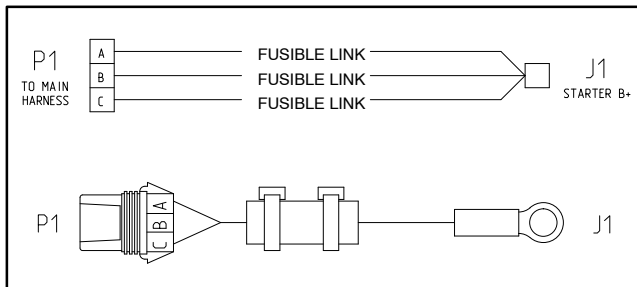

Figure 29
The electrical system on Greensmaster 3250-D machines includes a harness with three (3) fusible links for machine circuit protection (Fig. 29). The fusible link harness is connected to the engine starter motor B+ terminal. The fusible link harness connects the machine wire harness to the positive (+) battery terminal.